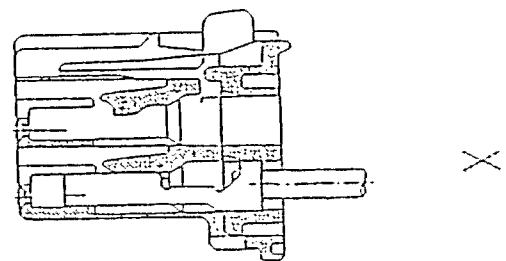
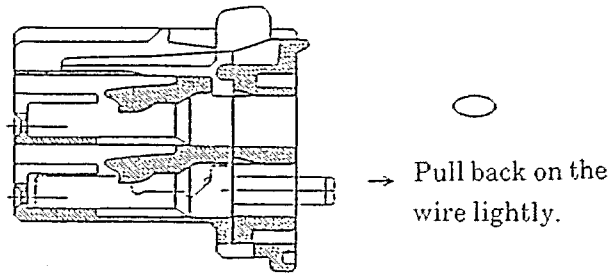

Fig. 2 Contact is not locked.
Fig. 3 When contact is correctly locked.
- (2) Verify that the terminal has been firmly locked to the housing lance. If the crimp is located at the center of the retainer during contact mounting as shown in Fig. 2, contact locking is not engaged rightly, causing the contact to slip out. Push the contact into the lance as shown in Fig. 3. Locking it to the housing lance correctly will make a clicking sound.
- (2) If contacts are not mounted correctly inside the housing, double lock may not completely lock or effectively lock. See Figs. 2 and 6.